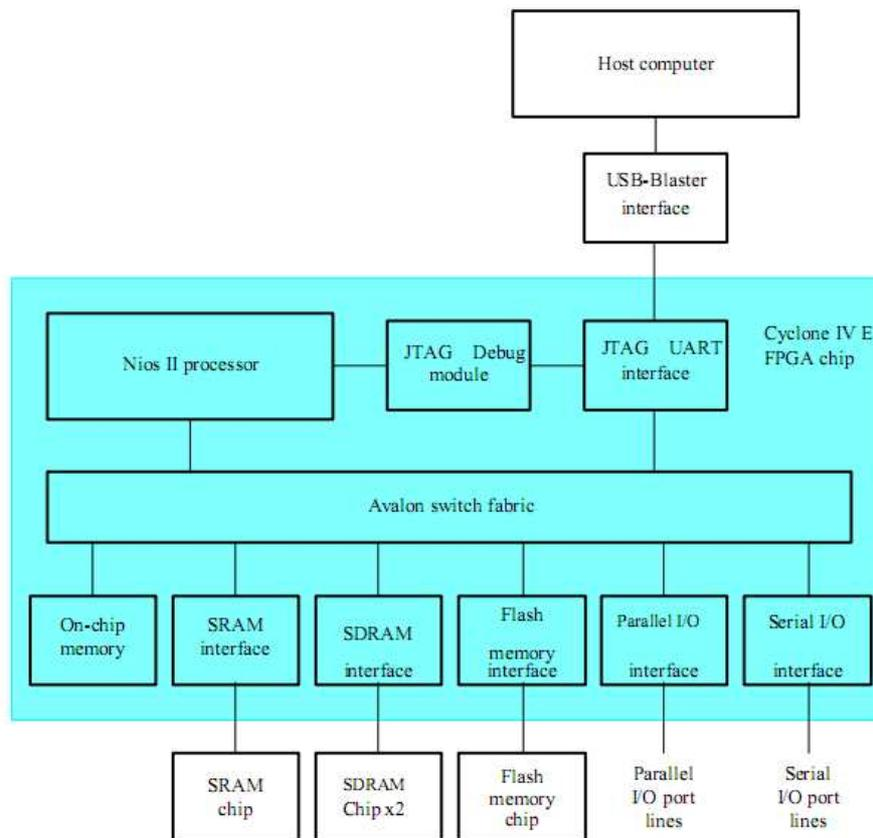
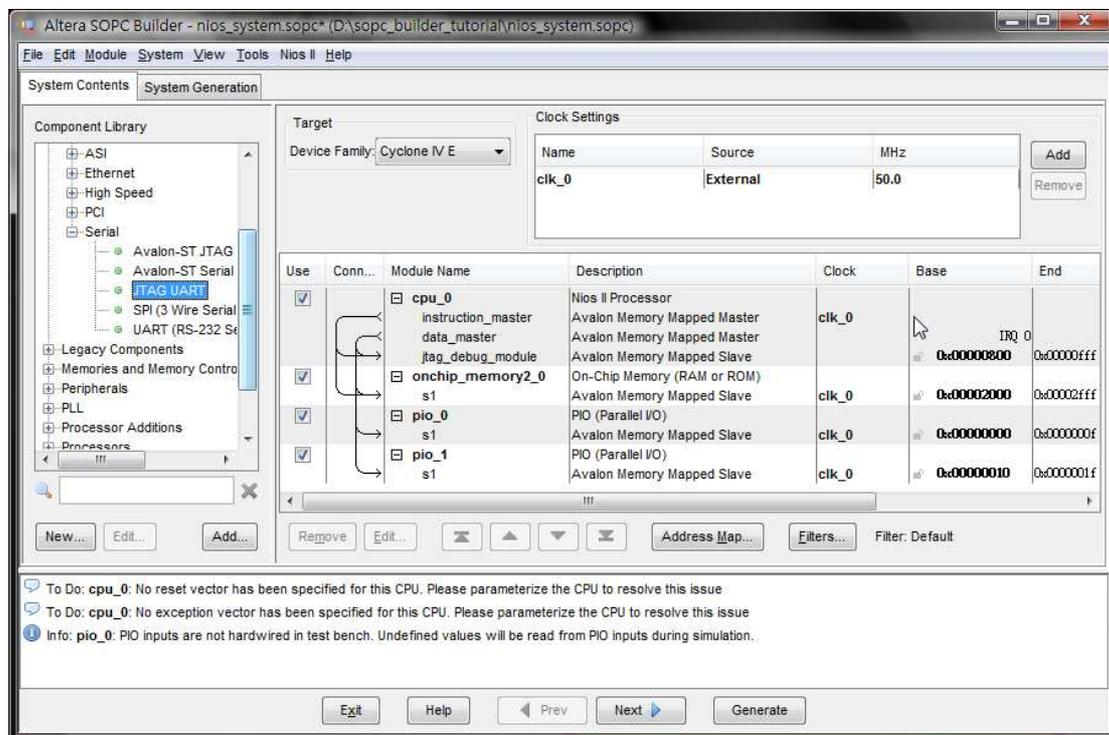

Figure 2 A simple example of a Nios II system.
Figure 13. The complete system.
Our example system is given in Figure 2. The system realizes a trivial task. Eight toggle switches on the DE2-115 board, SW_{7-0} , are used to turn on or off the eight green LEDs, $LEDG_{7-0}$. The switches are connected to the Nios II system by means of a parallel I/O interface configured to act as an input port. The LEDs are driven by the signals from another parallel I/O interface configured to act as an output port. To achieve the desired operation, the eight-bit pattern corresponding to the state of the switches has to be sent to the output port to activate the LEDs. This will be done by having the Nios II processor execute a program stored in the on-chip memory. Continuous operation is required, such that as the switches are toggled the lights change accordingly.
We will use the SOPC Builder to design the hardware depicted in Figure 2. Next, we will assign the Cyclone IV E pins to realize the connections between the parallel interfaces and the switches and LEDs which act as I/O devices. Then, we will configure the FPGA to implement the designed system. Finally, we will use the software tool called the Nios II Monitor Program to assemble, download and execute a Nios II program that performs the desired task.
The SOPC Builder is a tool used in conjunction with the Quartus II CAD software. It allows the user to easily create a system based on the Nios II processor, by simply selecting the desired functional units and specifying their parameters. To implement the system in Figure 2, we have to instantiate the following functional units:
10. The complete system is depicted in Figure 13. Note that the SOPC Builder automatically chooses names for the various components. The names are not necessarily descriptive enough to be easily associated with the target design, but they can be changed. In Figure 2, we use the names Switches and LEDs for the parallel input and output interfaces, respectively. These names can be used in the implemented system. Right-click on the pio_0 name and then select Rename. Change the name to Switches. Similarly, change pio_1 to LEDs.